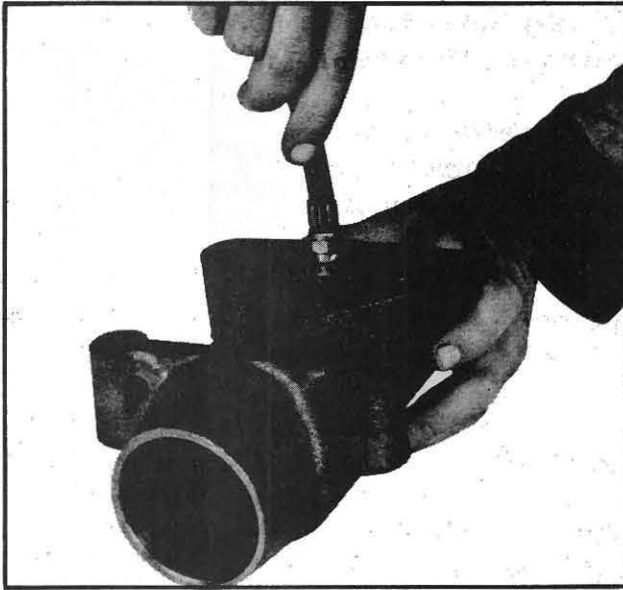

Fig. 318
8. The hydraulic ram piston may be removed from the cylinder by jarring the assembly on a wood block or by using compressed air to force the piston out, see Fig. 318.